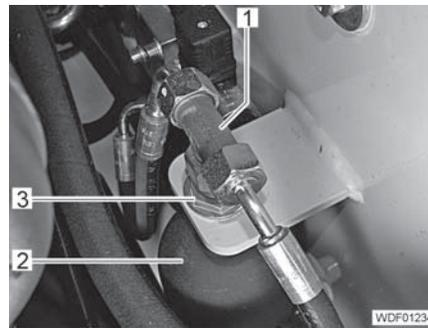

Fig. 214 Hydraulic line
- Unscrew and close off the hydraulic line (Fig. 214,1).
- Unscrew the nut (Fig. 214,3).
- Remove the diaphragm accumulator (Fig. 214,2) downwards.
- Screw in and tighten the nut (Fig. 214,3) with washer onto the connection on the diaphragm accumulator.
- Screw the hydraulic line (Fig. 214,1) onto the connection on the diaphragm accumulator and tighten it.